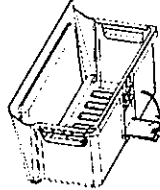

Figure 1
- 1- Slide out the bottom drawer and pull down the water drain cover (A). See Figure 1.